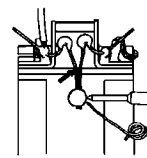

Figure 4
4. Solder both wires to the motor housing. (see figure 4). A high wattage soldering iron may be necessary.